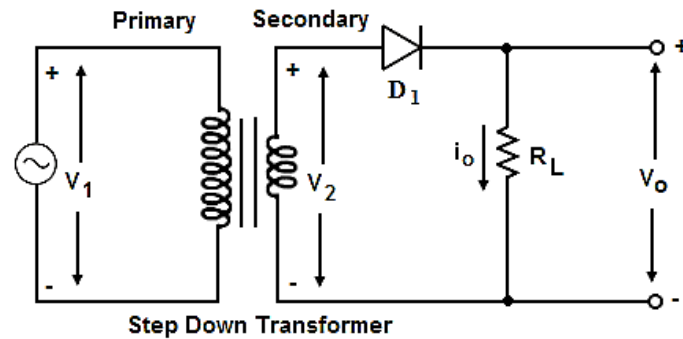

Fig.1.13: Half-wave rectifier
- Fig.1.13 shows the circuit diagram of a rectifier using a step down transformer.